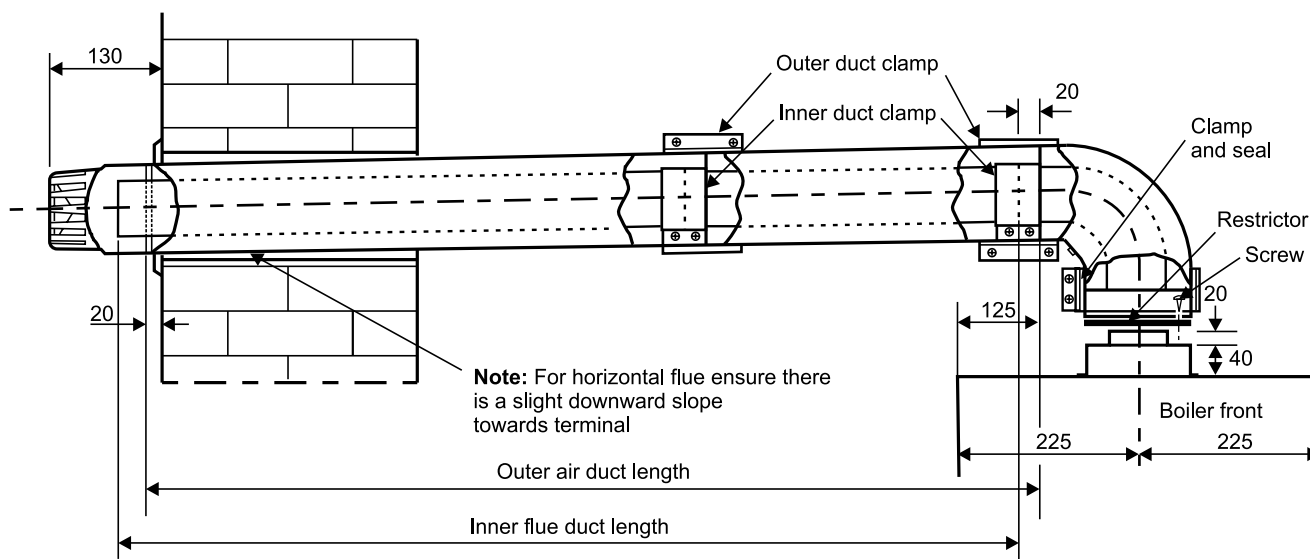

Fig. 13 - Side flue
2. If the flue is more than 1.5 m, the restrictor must be removed from the flue adaptor (see Fig. 13).